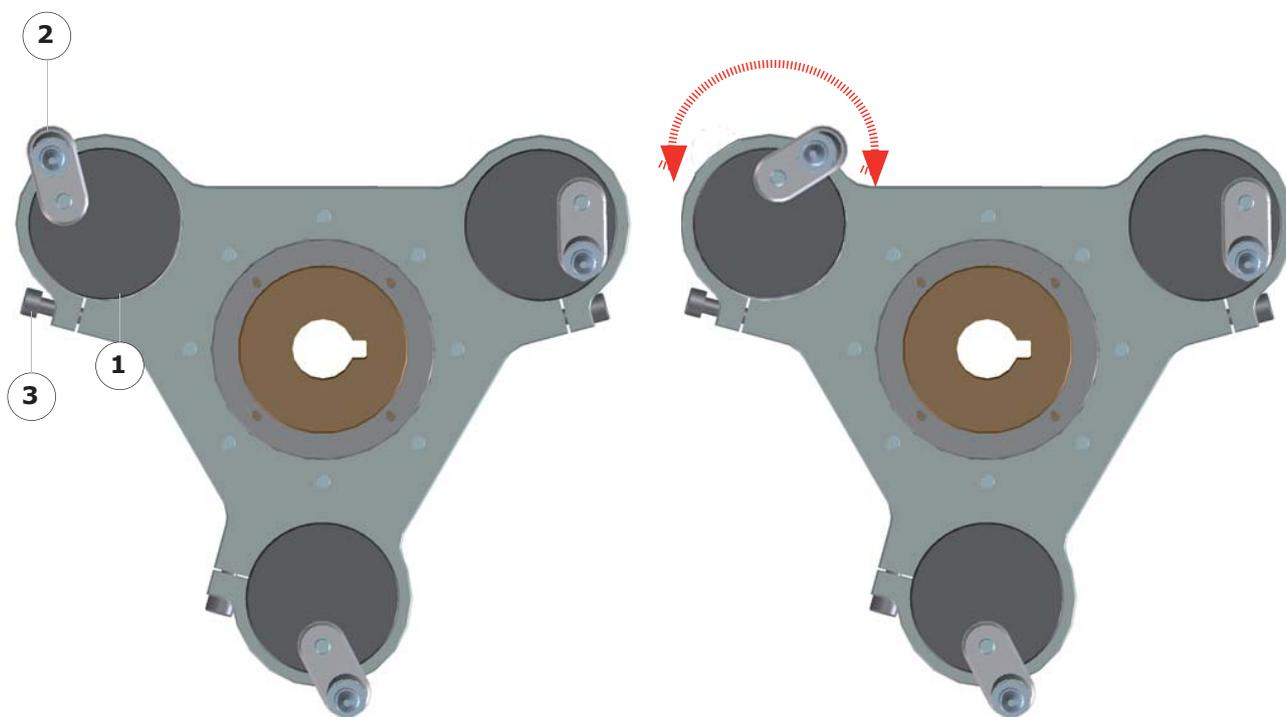

Fig.5.34 - Adjusting the ring + support leg assembly
- Slightly loosen the screw (Fig.5.34 - 3) to release the ring.
- Pivot the ring (Fig.5.34 - 1) + leg assembly (Fig.5.34 - 2) to the required position.